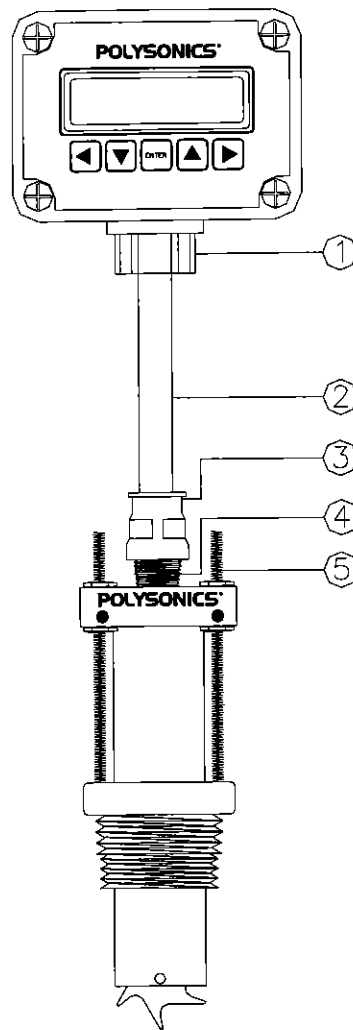

Figure 2-1 Mounting the Enclosure to the Sensor
The 2110 can be directly mounted with pipe fittings to an insertion impeller sensor. The 2110 has a 1/2-inch female National Pipe Thread (FNPT) fitting ① (Figure 2-1). Many industry standard insertion impeller sensors have a 1-inch FNPT fitting. The following pipe fittings are required for coupling the two fittings sizes together (Figure 2-1):
- 1/2-inch pipe nipple ②
- 1/2-inch to 1-inch pipe reducer ③
- 1-inch pipe nipple ④